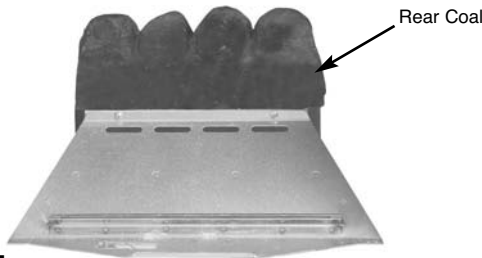

Fig. 57
1. Place the rear coal on the rear coal retainer ledge in a central position (Fig. 57).